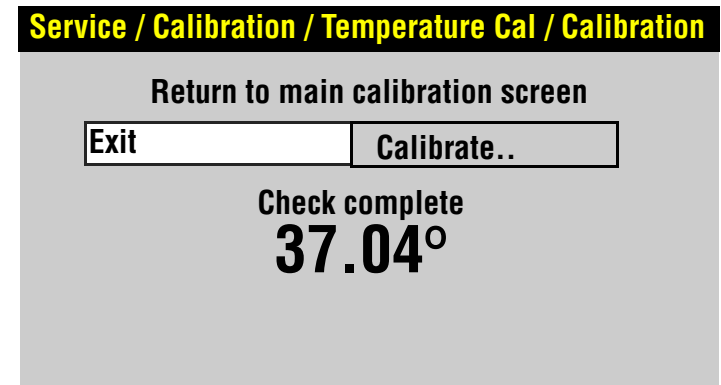

Figure 6.7—Calibration completion
10. When the calibration is complete, the screen shown in Figure 6.7 appears.